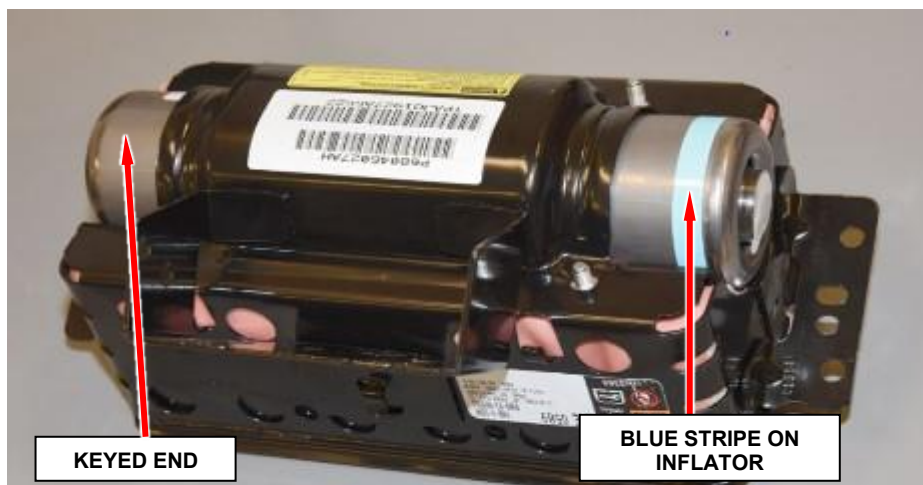

Figure 18 – Insert Inflator (Shown with Cushion Installed)
- h. Slide **new** inflator into housing. The keyed end is inserted first, therefore the blue stripe on the inflator will be located at the open end, as shown (Figure 18).